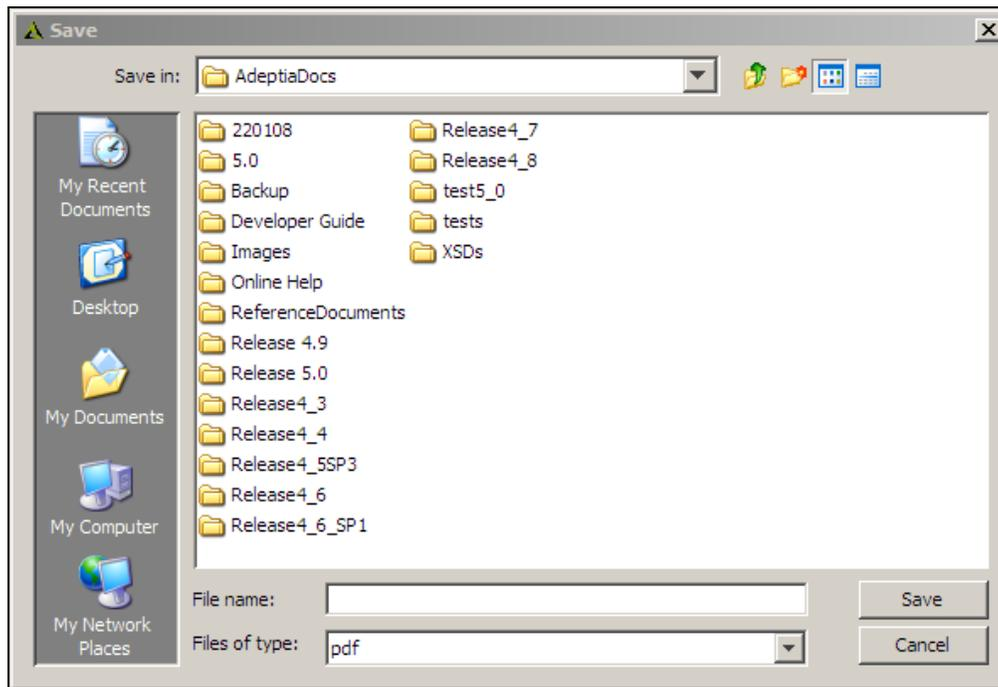

Figure 24: Save PDF
- In Process Modeler, click **Generate PDF** () button. The Save PDF screen appears to select the path, where PDF file will be saved (see Figure 24).